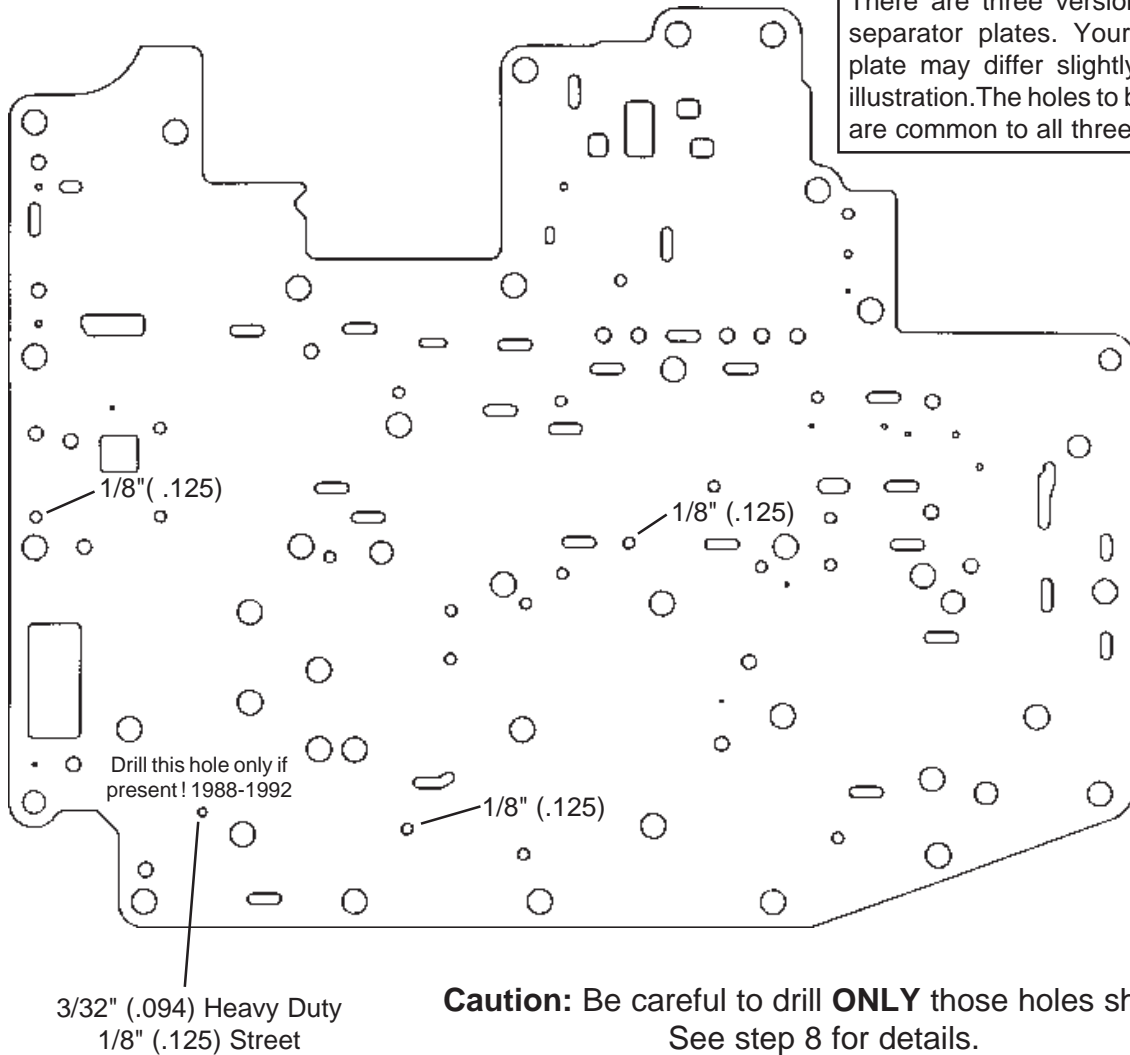

Figure 5
STEP 8. Heavy Duty and Street; Drill holes shown as in Figure 5. Remove all sharp burrs from plate surface with a fine flat file. Burrs can be